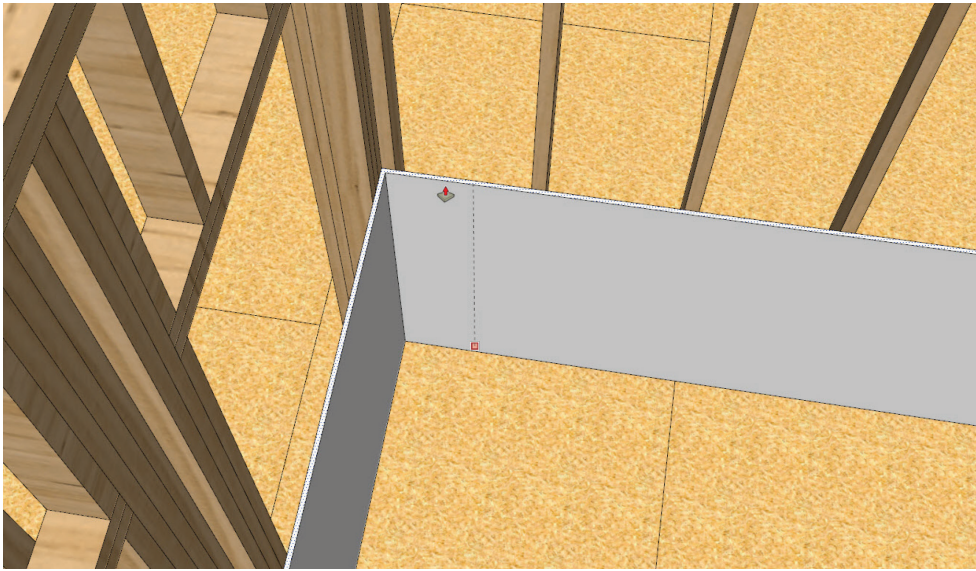

Figure 16.4 Push-Pull Drywall Face-Up Along Wall.
I use a fairly simple method to create the drywall geometry. Using the **L**ine tool, I start in one corner of the room, on the floor at the intersection of two walls. In the image, I will start in the corner by the entry door in the top left of the image, proceeding clockwise, snapping to each interior corner until I close the face. Next, I use the Offset tool (F) to offset the perimeter of this face inward by $\frac{1}{2}$ " for the thickness of the drywall. This creates a new face representing a section of the drywall. Once I have this new face, I delete the face that is on the floor, leaving the $\frac{1}{2}$ " perimeter face representing the drywall. I then use Push/Pull and pull this face up to within $\frac{1}{2}$ " of the top of the wall, to allow for the $\frac{1}{2}$ " drywall on the ceiling. Figure 16.4 shows the initial pull up the wall.